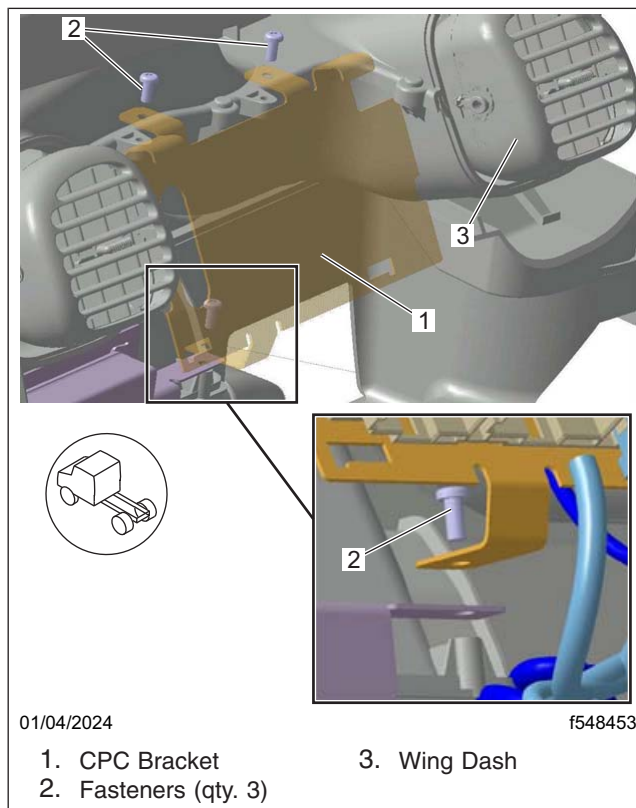

Fig. 6, CPC Bracket
4. Remove the CPC bracket from the dash assembly. See **Fig. 6**.